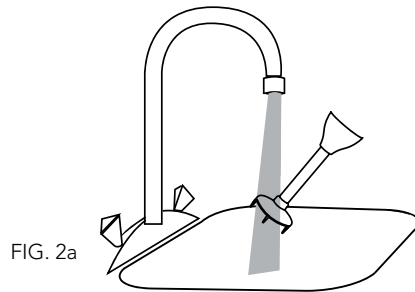

FIG. 2a
2. Detachable shaft: Wash the detachable shaft under running water without the use of abrasive cleaners or detergents. Fig. 2a.